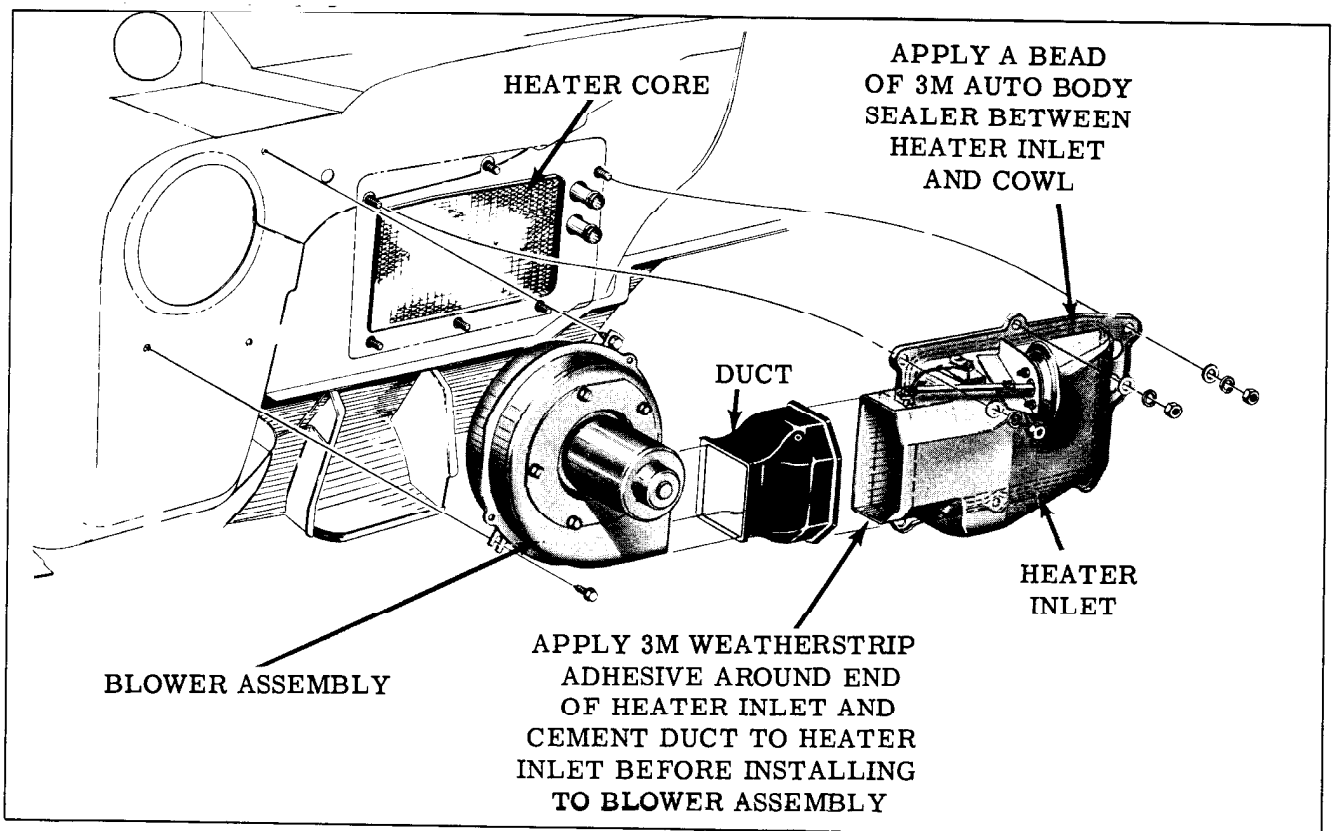

Fig. 16-26 Heater Inlet and Blower Assembly
Remove and Install (Fig. 16-26)
- c. Remove the six heater inlet to cowl attaching nuts and washers and remove heater inlet assembly. (Fig. 16-26)
To install reverse the removal procedure. Apply sealer as indicated in Fig. 16-26.